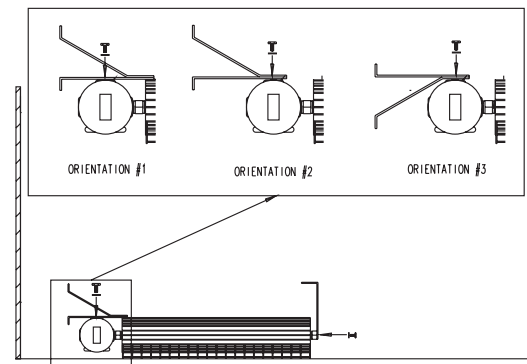

Figure 6 – Install mounting bracket to heater
Step 2: Fasten top stabilizing bracket(s) and floor mounting bracket(s) to the unit. Floor mounting brackets may be mounted in one of three orientations (Figure 6, page 4).